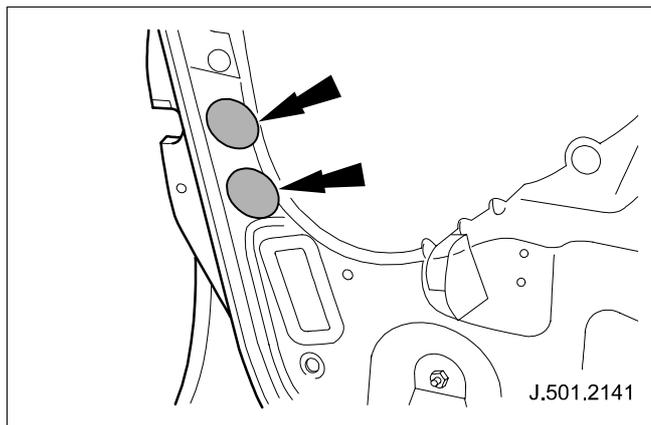

Fig. 4
- 4 Door sealing patches. (See Fig. 4)